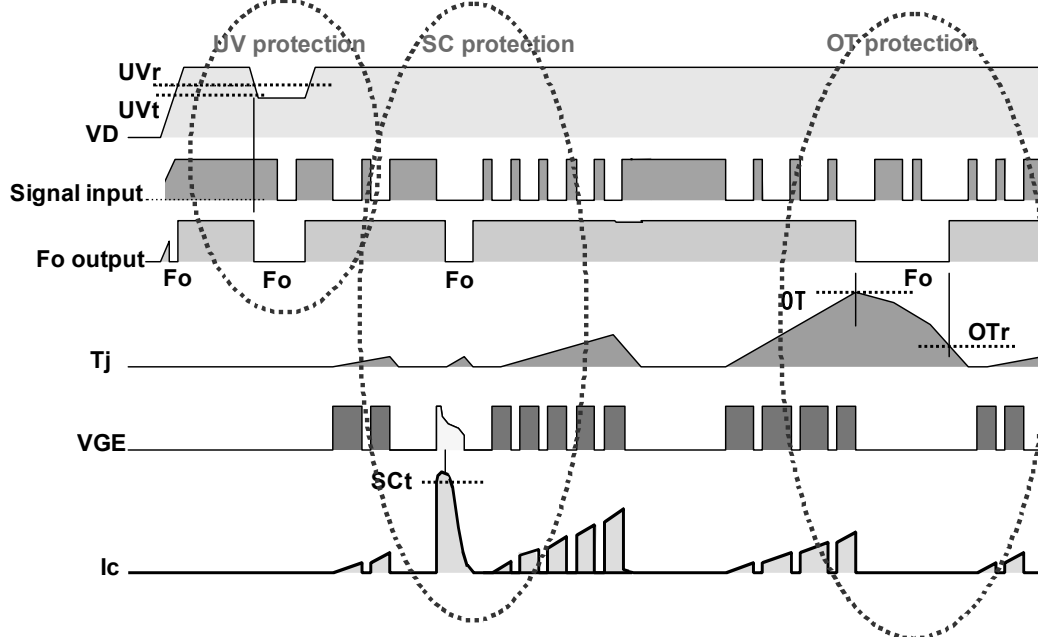

Fig.9.7 Timing chart of Control and protection of IPM
IPM (Intelligent Power Modules) have sophisticated built-in protection circuits that prevent the power devices from being damaged should the system malfunction or be over stressed. Control supply under-voltage(UV), over temperature(OT), and short-circuit(SC) protection are all provided by the IPM's internal gate control circuits. A fault output signal is provided to alert the system controller if any of the protection circuits are activated. Following Fig9.7 is a block diagram showing the IPMs internally integrated functions.